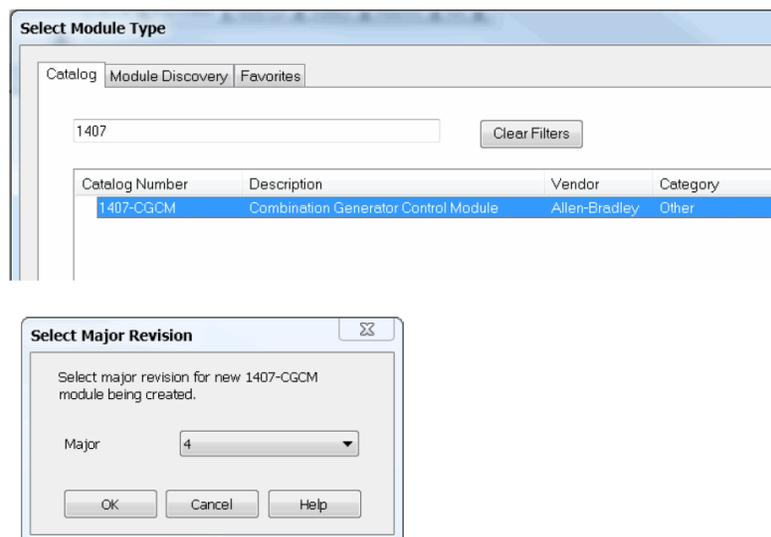

Figure 4-2. Select Module Type and Major Revision
The Select Module Type dialog box (Figure 4-2) appears. Add the DECS-250 as a ControlNet module under the 1756-CNB(R) ControlNet Bridge module in the controller.
2. Select 1407-CGCM, click Create, and then, in the Select Major Revision dialog box (Figure 4-2), enter the Major Revision of the host firmware (for example 4, where the host firmware revision is 4.x or 2, where the host firmware is revision 2.x).